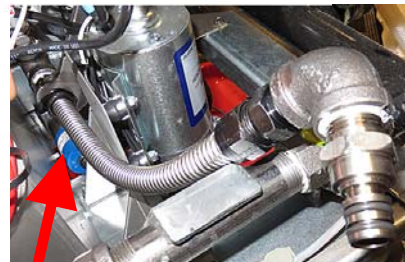

Figure 22
22. Attach inlet assembly flexline (1083391) to the reducing tee, behind the top off pump (see Figure 22) and tighten. Refer to fill assembly plumbing on page 13 for the next several steps.